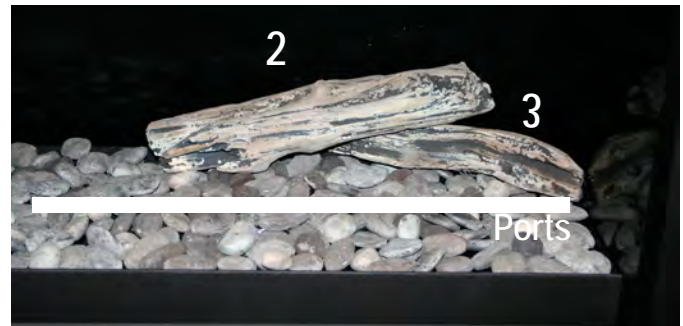

Figure 27b.
Step 4. Place Log 3 from LGS58 in the back right corner of the burner tray. Ensure log does not cover ports. Place Log 2 of LGS58 on top of log 3. See **Figure 27b**.